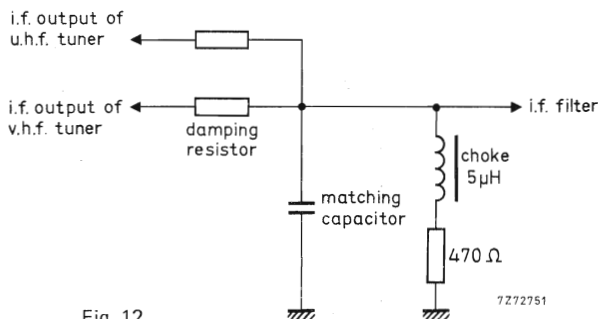

Fig. 12.
The tuner needs a d.c. path from the i.f. output terminal (T) to earth, preferably via a choke of approx. 5 μ H outside the tuner (Fig. 12). Where the tuner is used in combination with a u.h.f. tuner, this choke can be common for both tuners; a resistor in series with the choke can make ineffective the i.f. output circuit of the switched-off tuner. For damping the i.f. output circuit and matching the i.f. output impedance of the tuner to the i.f. amplifier, a series resistor and a parallel capacitor as shown in Fig. 12 should be used (During v.h.f. operation the voltage across the 470 Ω resistor is 1 to 1,2 V).